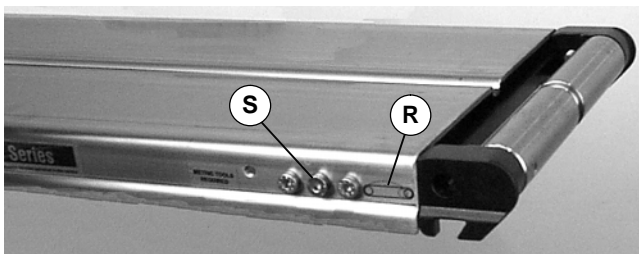
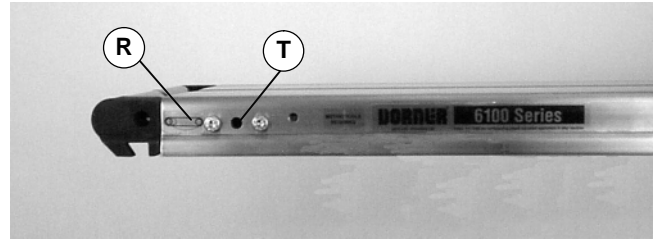
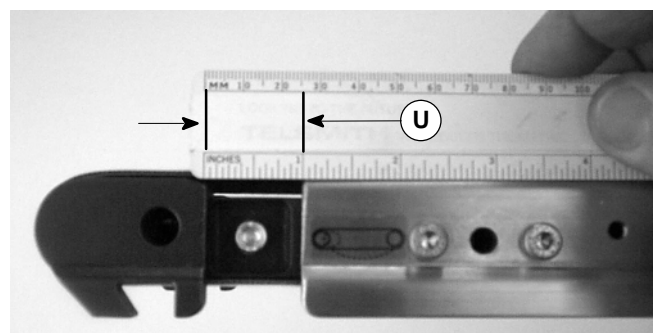

Figure 5
Figure 6
Figure 9
2. On tension end of the conveyor identified with  label (R of Figures 5 & 6), loosen screw (S of Figure 5). Rotate pinion gear (T of Figure 6) clockwise until headplate shoulder contacts conveyor frame.
6. Rotate pinion gear (T of Figure 6) counter-clockwise to a distance of 1" (25 mm) (U of Figure 9).
7. Tighten lock screw (S of Figure 5) to 40 in-lb (4.5 Nm).